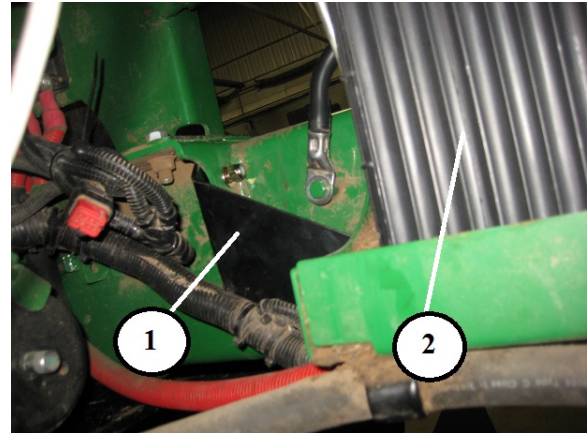

Figure 98. RH Side Mounting Location
Install Rear Deflector mount brackets to the machine frame. The RH side support mounts in front of the battery and LH side support mounts behind the accumulator at the existing frame brackets of the windrower. Brackets are fastened with two (2) 3/8" x 1 1/4" bolts at each location as indicated in Figures 98 and 99.